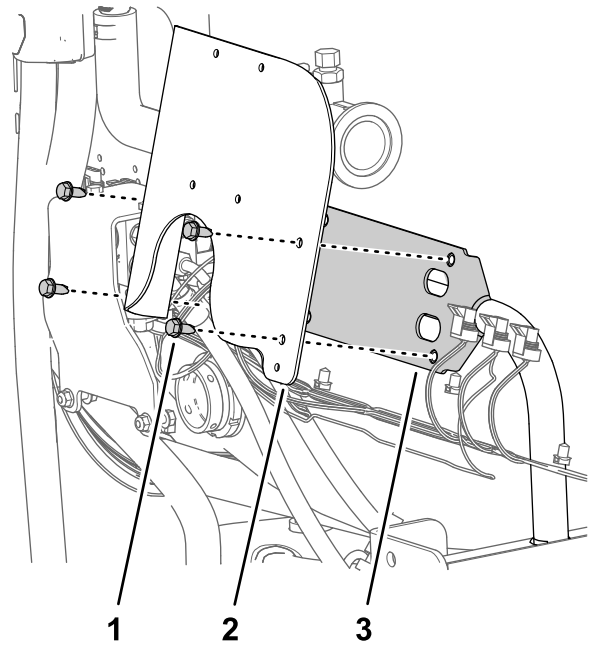

Figure 72
1. Align the holes in the flow-meter bracket with the holes in the valve mount (Figure 72).